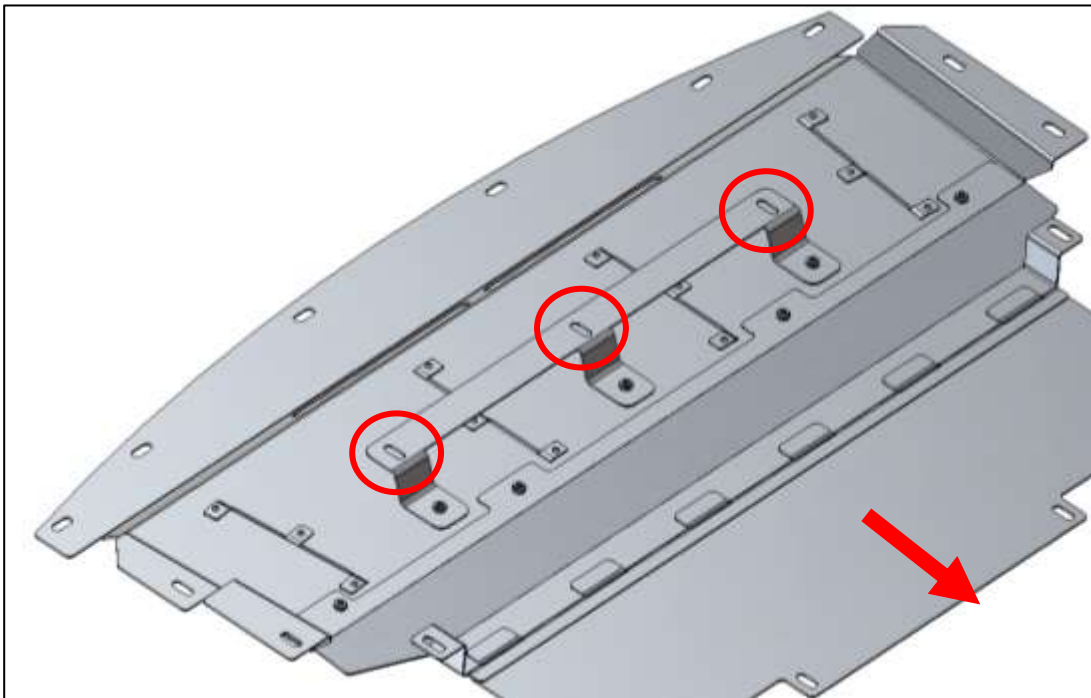

Figure 4
7. Locate the Core Support Extension and (3) three M6 SEMS Screws, 20mm. Attach the Core Support Extension to the (3) three Riv-Nuts and secure with the M6 SEMS Screws. The Extension will point towards the rear of the vehicle. *Figure 4*.